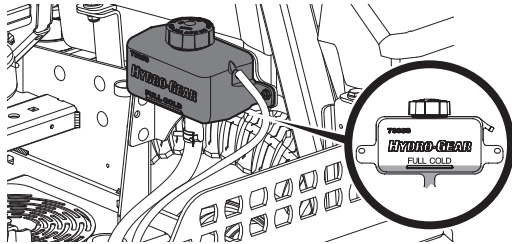

Figure 45
2. Turn the reservoir cap counter-clockwise to remove, then check the oil level in the reservoir. Oil should be visible at the bottom of the cup, but the oil level must NOT be above the "FULL COLD" line (Figure 45). DO NOT FILL THE RESERVOIR.